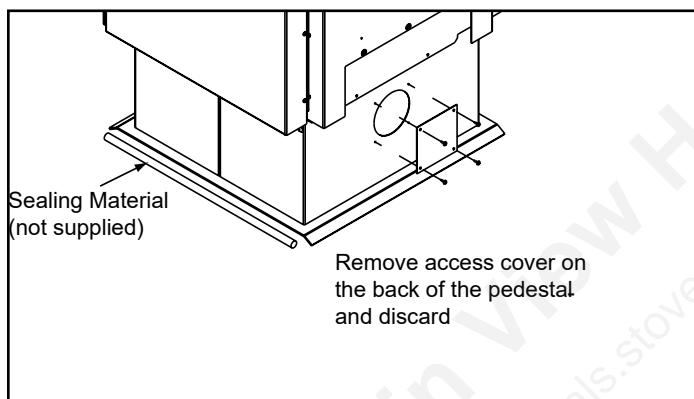
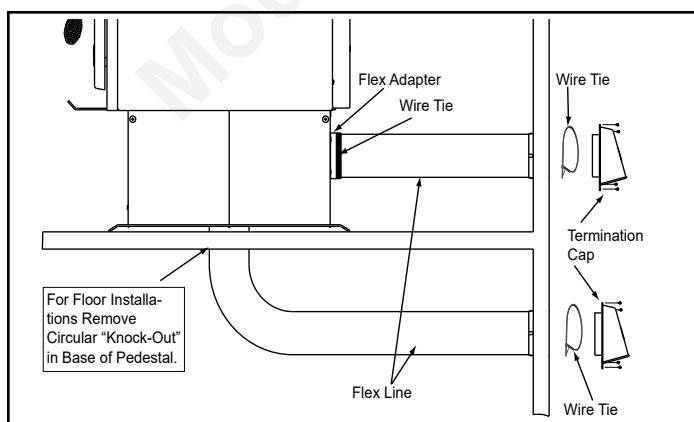

Figure 11
Figure 12
1. Remove the access cover on the back of the pedestal and discard (**Figure 11**).
2. Using a #2 Phillips screw driver attach the Flex Adapter (**C2**) to the appliance using four (4) #8 x 1/2 inch Screws (**C3**); secure with 16 inch Wire Ties (**C4**) (**Figure 12**).
1. Remove the circular "knock-out" in the base of the pedestal (**Figure 12**).
In some instances you may not be able to install the flex pipe as show in **Figure 12**. If that is the case, follow the instructions for a rear installation install the flex pipe to the rear of the pedestal and remove the circular "Knock-Out" in the base of the pedestal. You must seal off the pedestal with non-combustible material (not supplied). The goal is to seal the pedestal so no room air can leak into the pedestal and to seal for cold air infiltration (**Figure 11**).